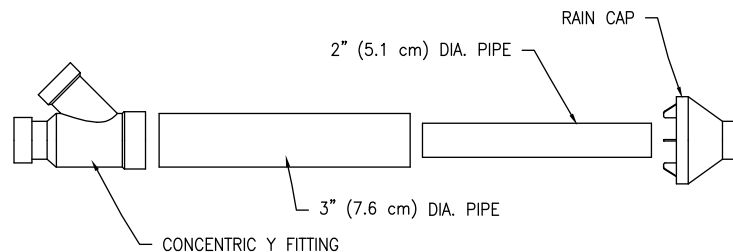
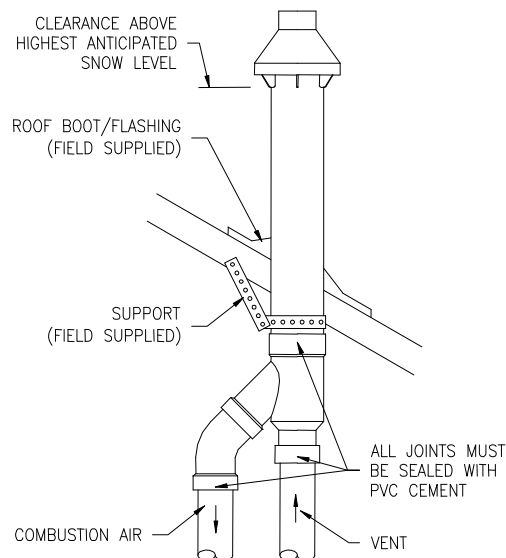

Figure 20. Concentric Vent Kit Part Identification
Figure 22. Concentric Vent Roof Top Attachment
- a. Cement concentric Y fitting to larger diameter pipe. (See Figure 20).
6. Secure assembly to roof structure as shown in Figure 22 using field-supplied metal strapping or equivalent support material.
Ensure termination height is above the roof surface or anticipated snow level. See Figure 22.
8. Cement heater combustion-air and vent pipes to concentric Y fitting assembly (Figure 20). See Figure 22 for proper pipe attachment.
- a. Cement Y concentric fitting to larger diameter kit pipe. (See Figure 20).